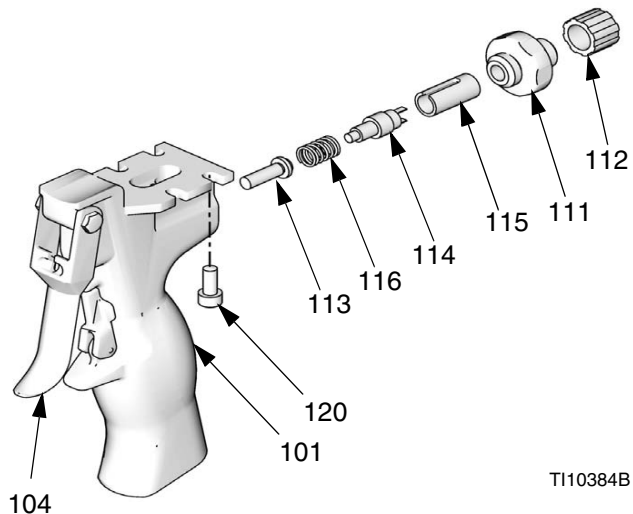

FIG. 8
1. Install the plunger (113) and spring (116). See FIG. 8.
2. Insert the switch assembly (255463) while routing the ground lug (108) through the hole in the top of the handle.
3. Torque plug (111) to 125-135 in-lb (14-15 N•m).
4. Tighten the strain relief (112).
5. Install the ground screw (110) through the lock washer (109) and ground lug (108). Torque to 15-20 in-lb (1.7-2.2 N•m).
6. Align the dispense valve on the top of the handle (101). Torque the four screws (120) evenly to 15-20 lb (1.7-2.2 N•m).